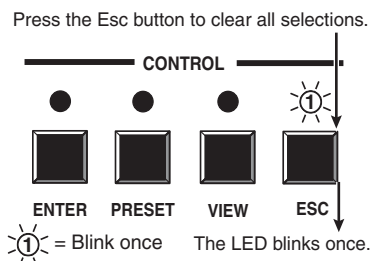

Figure 3-46 — Clear all selections
1. Press and release the Esc button (figure 3-46).